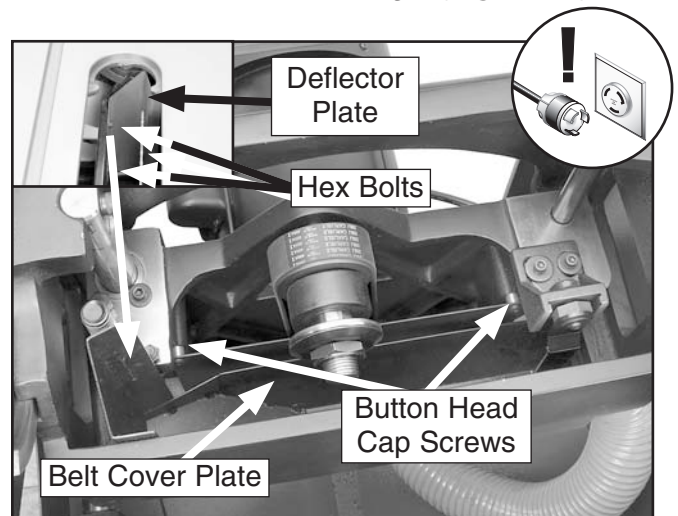

Figure 67. Belt cover plate and top button head cap screws (table removed for clarity).
8. Remove the deflector plate and the hex bolts and flat washers securing it (**Figure 67**).
9. Remove the upper two button head cap screws, and remove the spacers on the belt cover plate shown in **Figure 67**.